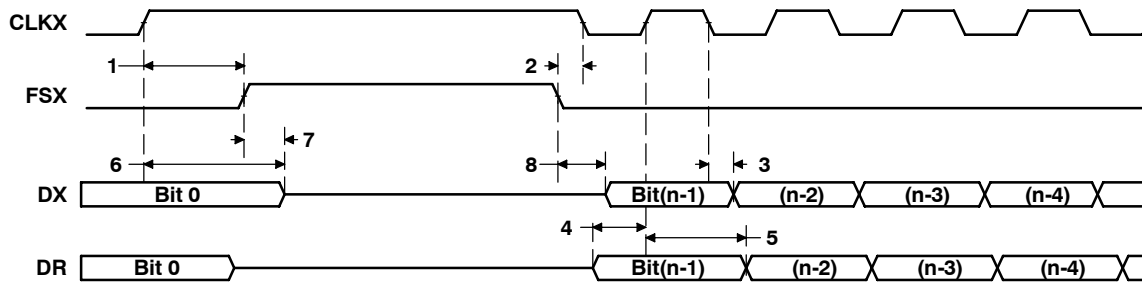

Figure 36. McBSP Timing as SPI Master or Slave: CLKSTP = 10b, CLKXP = 1
**timing requirements for McBSP as SPI master or slave: CLKSTP = 10b, CLKXP = 1† (see Figure 36)**
**switching characteristics over recommended operating conditions for McBSP as SPI master or slave: CLKSTP = 10b, CLKXP = 1† (see Figure 36)**